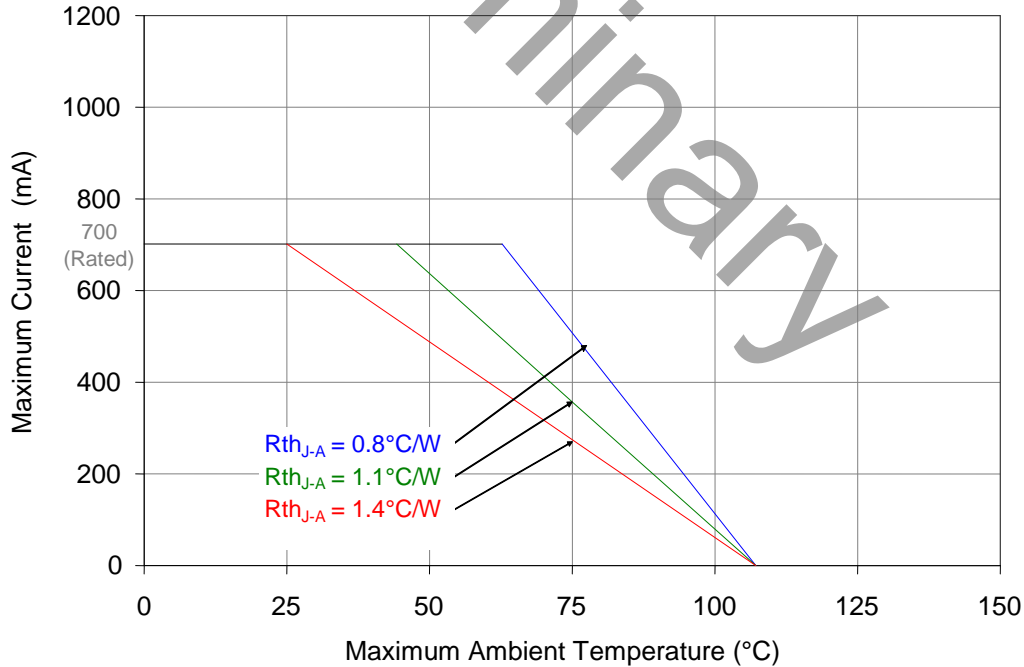

Figure 10: Maximum forward current vs. ambient temperature based on TJ(MAX) = 150°C.
- Maximum DC forward current (per die) is determined by the overall thermal resistance and ambient temperature. Follow the curves in Figure 10 for current derating.
Notes for Figure 10: